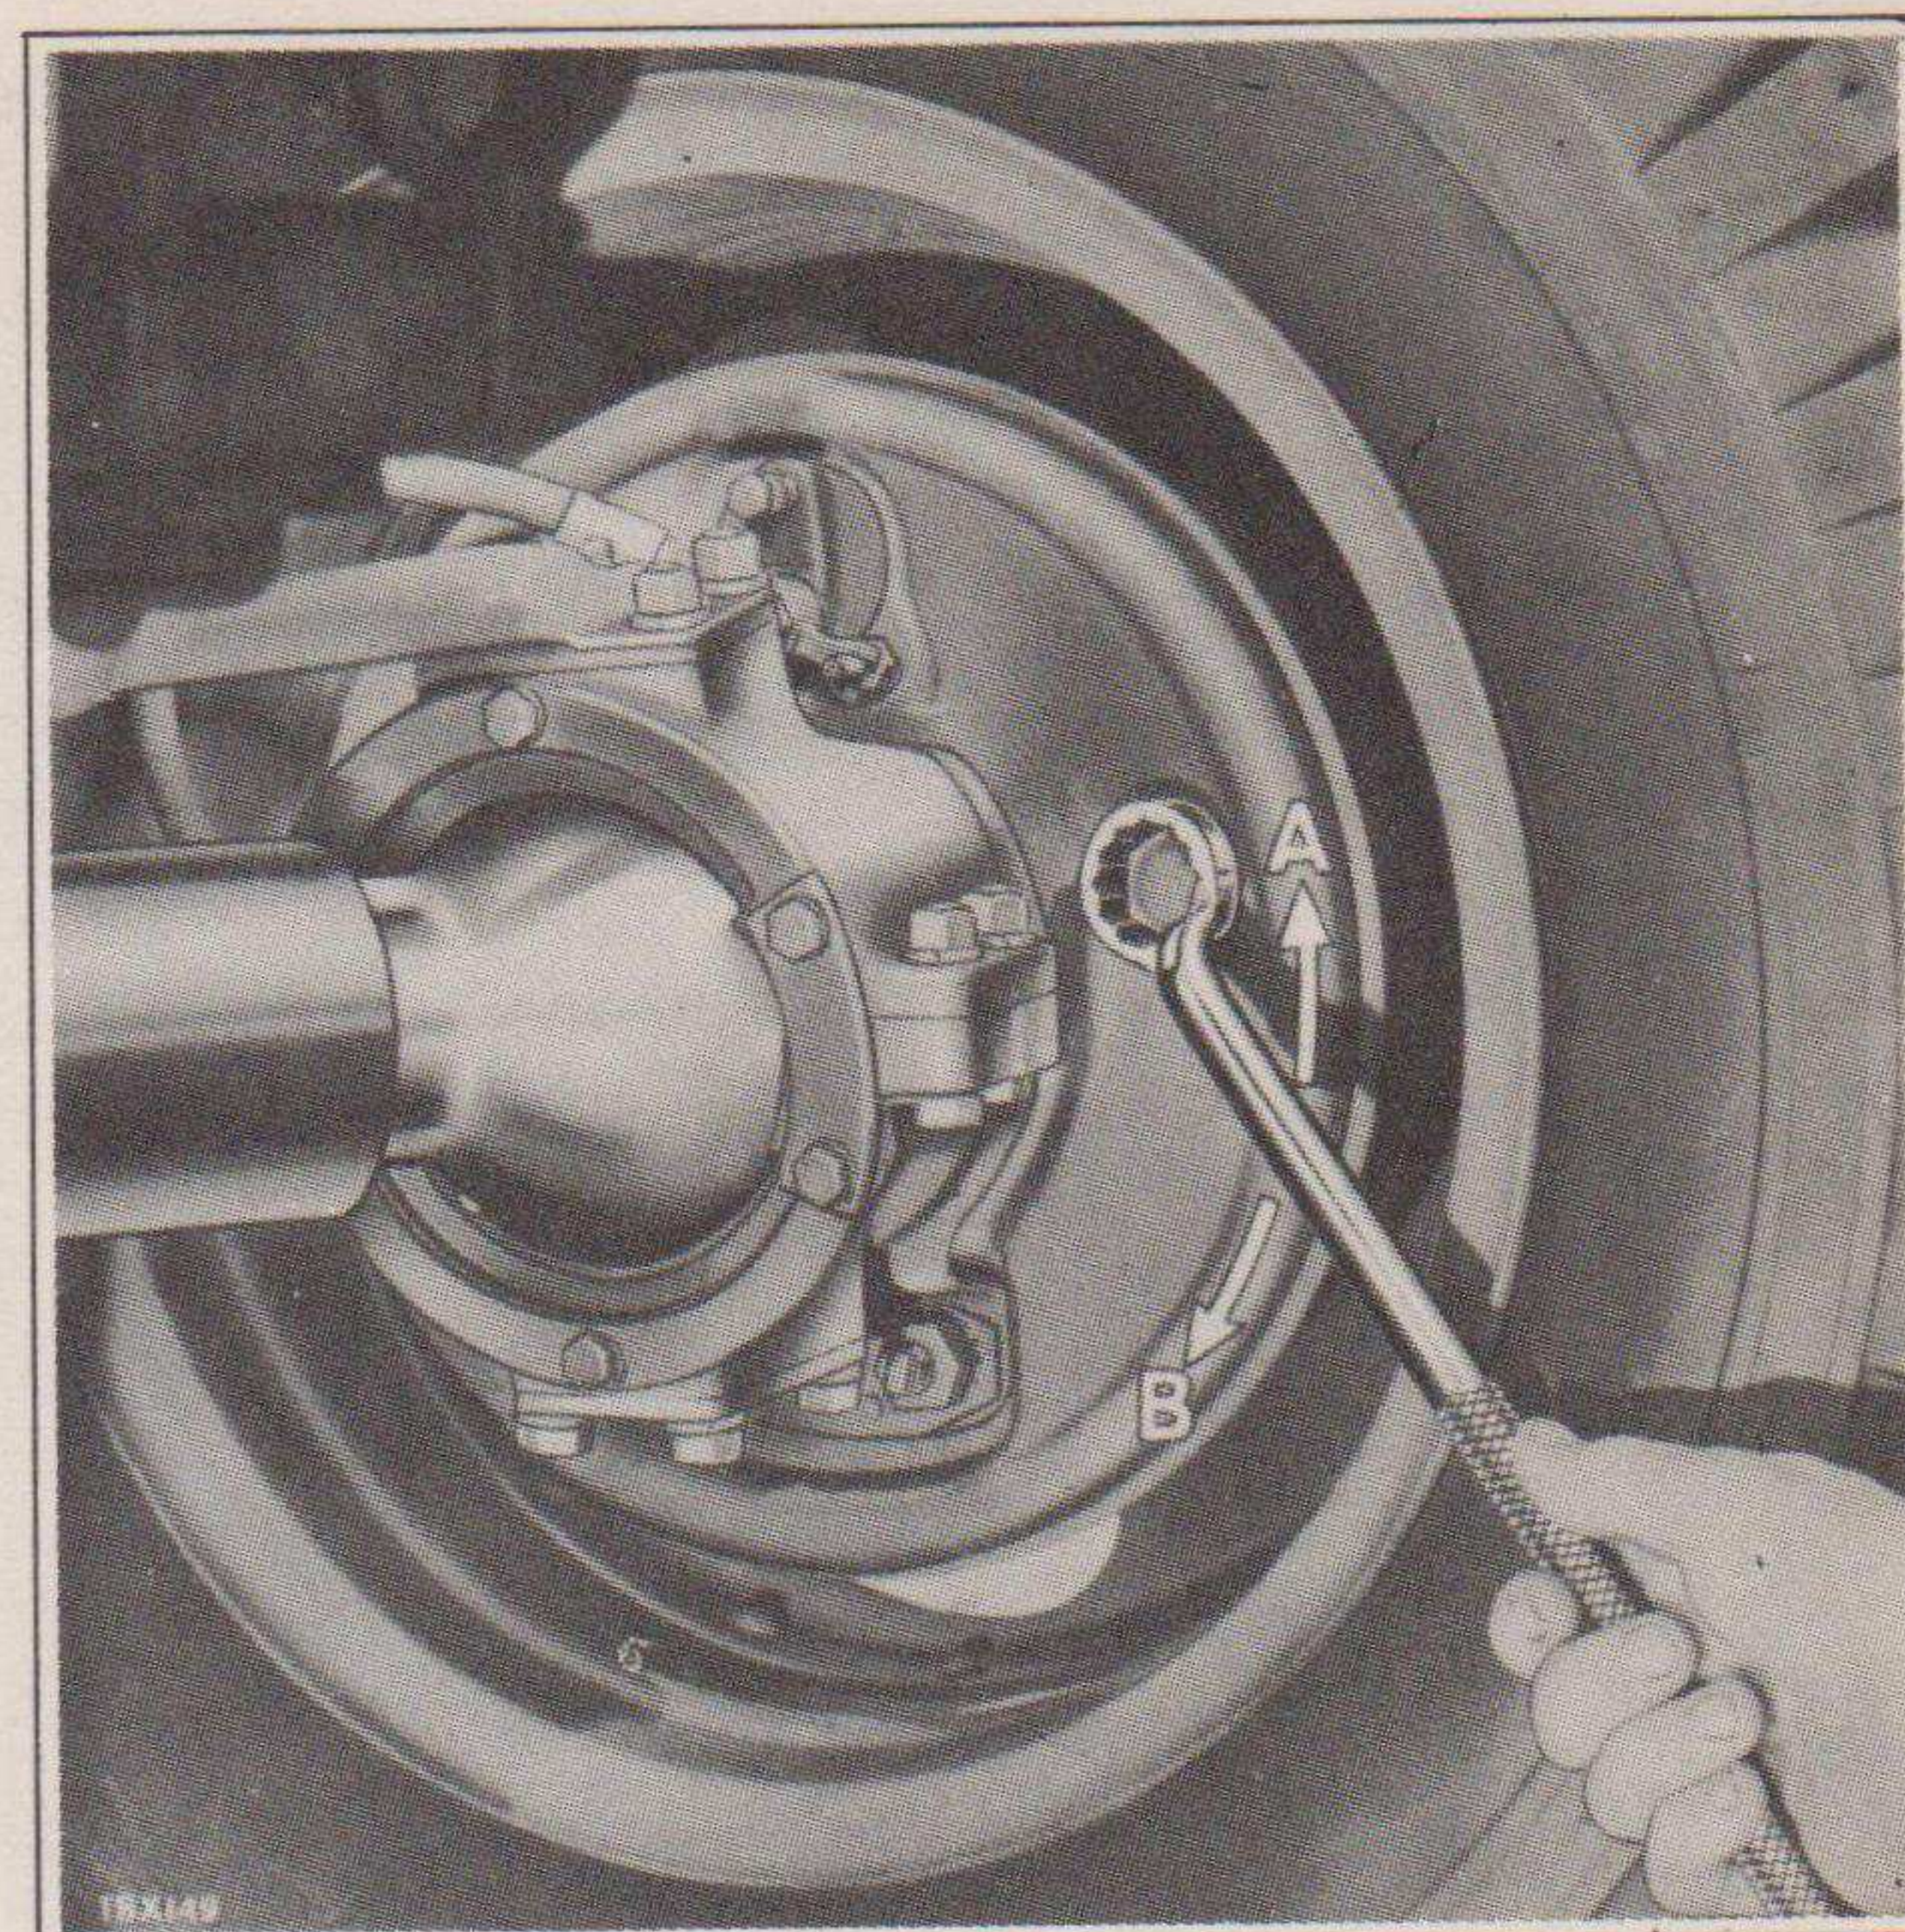

Fig. 71—Turning Brake Shoe Cams
- (b) Turn the brake shoe adjusting cam (Fig. 71) until the front shoe lining is solid against the brake drum and the wheel is locked, then back off the cam until the wheel may be spun without interference.